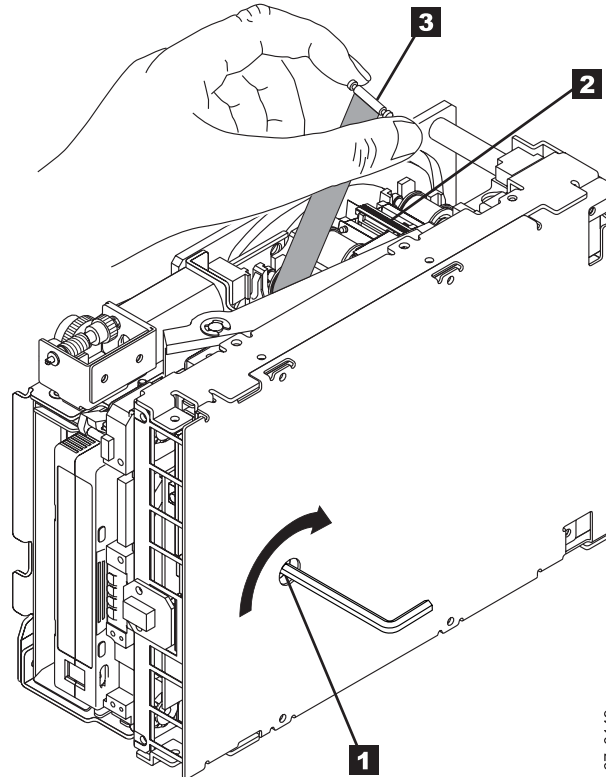

Figure B-16. Rewinding the leader pin into the tape cartridge
4. Place the tape drive so that the front faces you, then tilt it on its left side (see Figure B-16).
5. At the bottom of the drive, locate the access hole (**1** in Figure B-16).
7. With clean needle-nose pliers, grasp the end of the leader pin and pull it out of the cartridge so that you can grip it with your fingers (see **3** in Figure B-16).